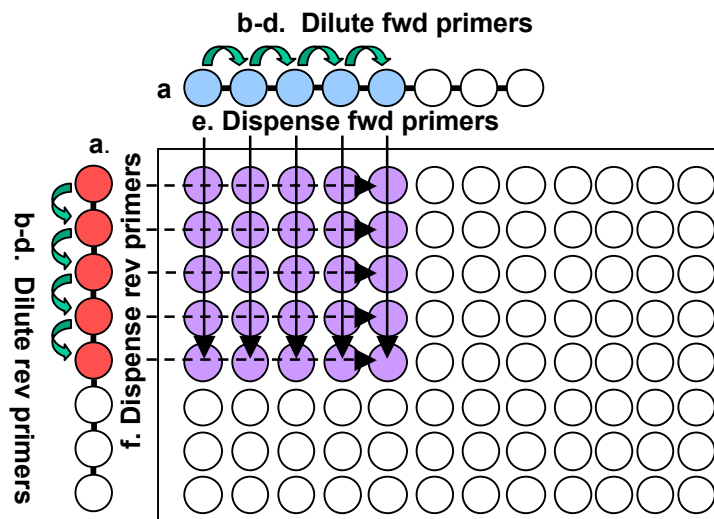

Fig 1: Follow steps 1a – 1f using diagram above
1. Prepare and dispense diluted primers (Fig 1).